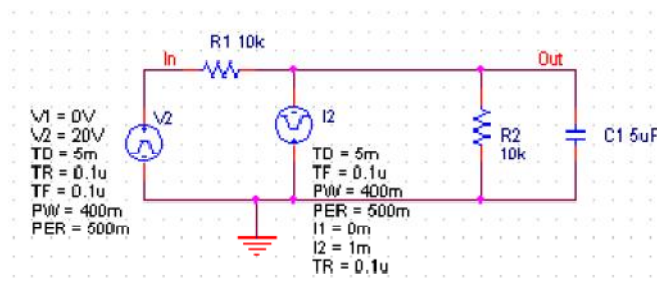

Figure 14. Circuit with a PULSE voltage and current source
- f) Instead of using a switch we can also use a voltage source that changes over time. This was done in Figure 14 where we used the VPULSE and IPULSE sources from the SOURCE Library. We entered the voltage levels (V1 and V2), the delay (TD), Rise and Fall Times, Pulse Width (PW) and the Period (PER). The values are indicated in the figure below.